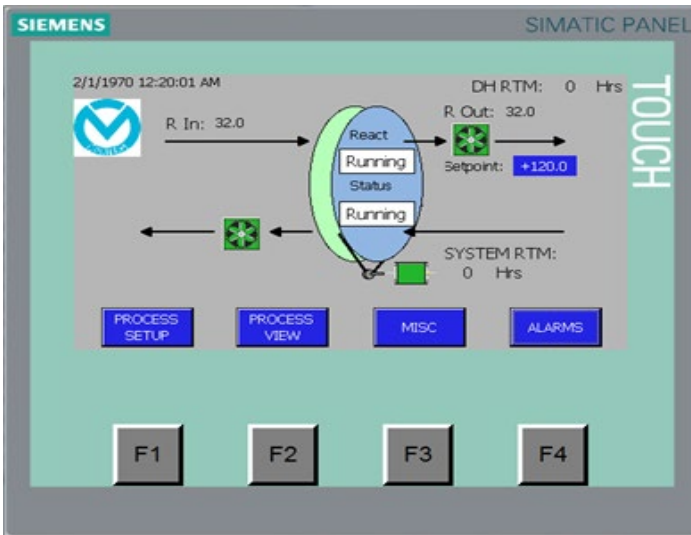

Figure 1.0
- 6.1.1 System Screen This screen is the first screen that comes up when power is applied to the equipment (figure 1.0). The System screen displays the equipment's operational status along with separate indication for the Reactivation air stream. The System screen also acts as the navigation portal for all of the screens configured in the system. All navigation references in this section assume the operator starts on the System screen.